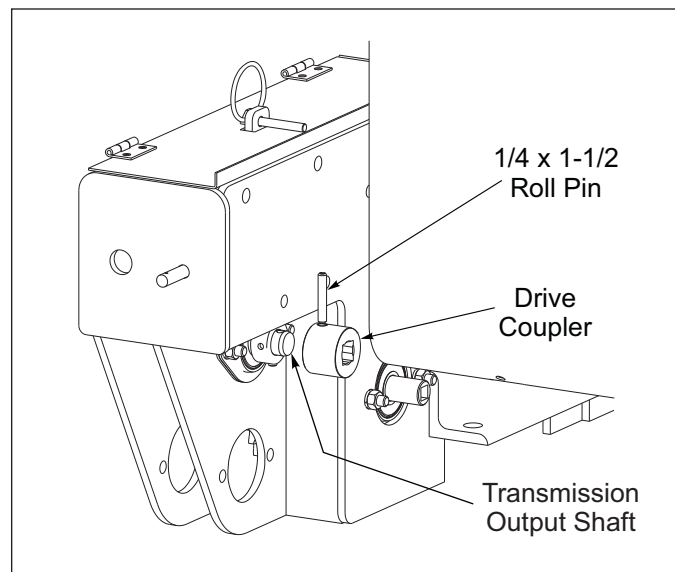

Figure 2-42: Coupling Transmission
4. Install Drive Coupler on Transmission Output Shaft with 1/4" x 1-1/2 Roll Pin. **See Figure 2-42.**